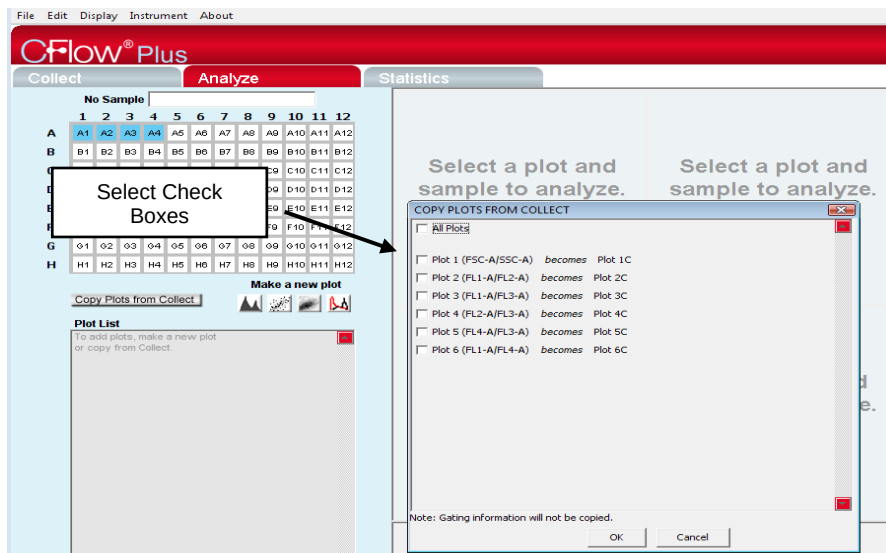

Figure 4-2 Selecting plots to copy from the Collect tab.
3. Click the **Copy Plots from Collect** button and a dialog box will open (Figure 4-2).
4. Select the check boxes corresponding to the desired plots. For this example, choose Plot 1, Plot 2, Plot 3 and Plot 6 (Figure 4-2). Gating strategies applied in the Collect tab are not automatically applied in the Analyze tab.